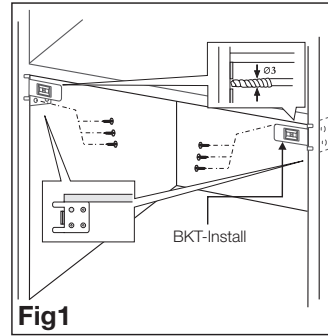

Fig1
1. Use the 3mm drill to make holes. Fix screws into BKT-Install. (Fig1)